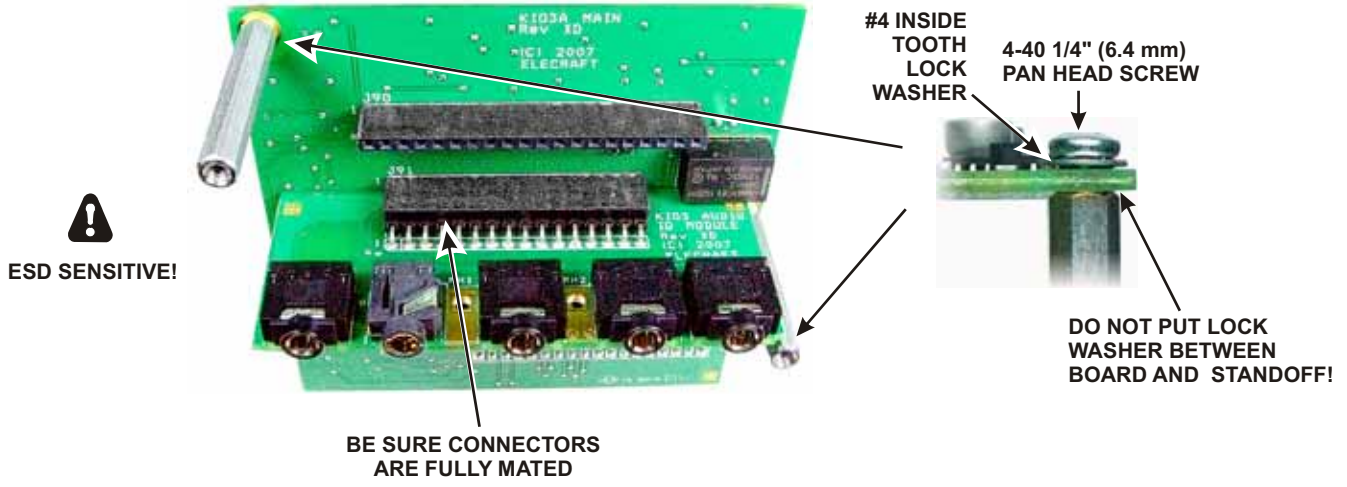

Figure 29. Preparing the KIO3 Board for Installation.
□ Mount two 1-1/4" (31.8 mm) standoffs in the two holes on the KIO3 board as shown in Figure 29. One is in the corner and the other is about half way down the opposite side of the board. **Do not put lock washers between the standoffs and the board.**
□ Plug the Audio I/O daughter board into J91 as shown in Figure 29. The second daughter board will be installed later.